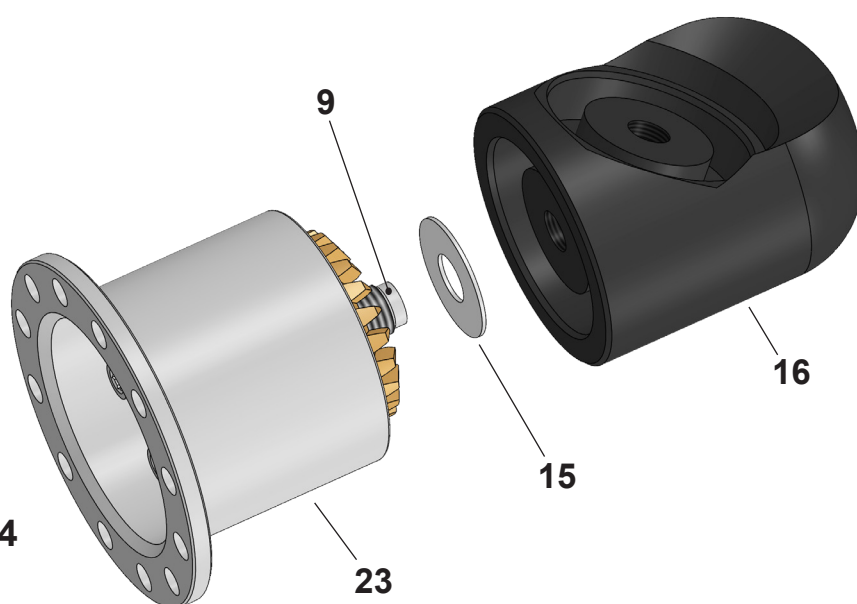

Fig. 9.14
9.4.5) Remove the casing pos.16 and the washer pos.15 (Fig.9.14).